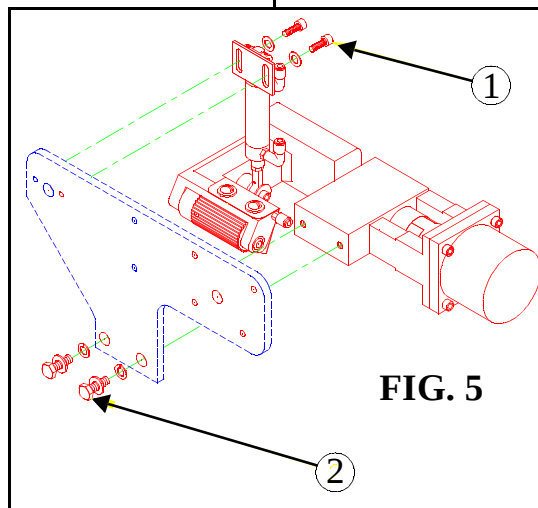

FIG. 5
In adjusting the height of the puller, set the puller so that there is 1/2" clearance between the puller roller and the chaining plate. This adjustment is made by loosening the two socket cap screws in (Fig. 5, item 1) and positioning it so that the proper clearance is obtained.
Loosen the two 5/16-18 hex cap bolts (Fig. 5, item 2) that secure the puller to the mounting bracket. It may or may not be necessary to raise or remove the presser foot to make this adjustment. When the roller is level with the chaining plate tighten the two hex cap bolts.